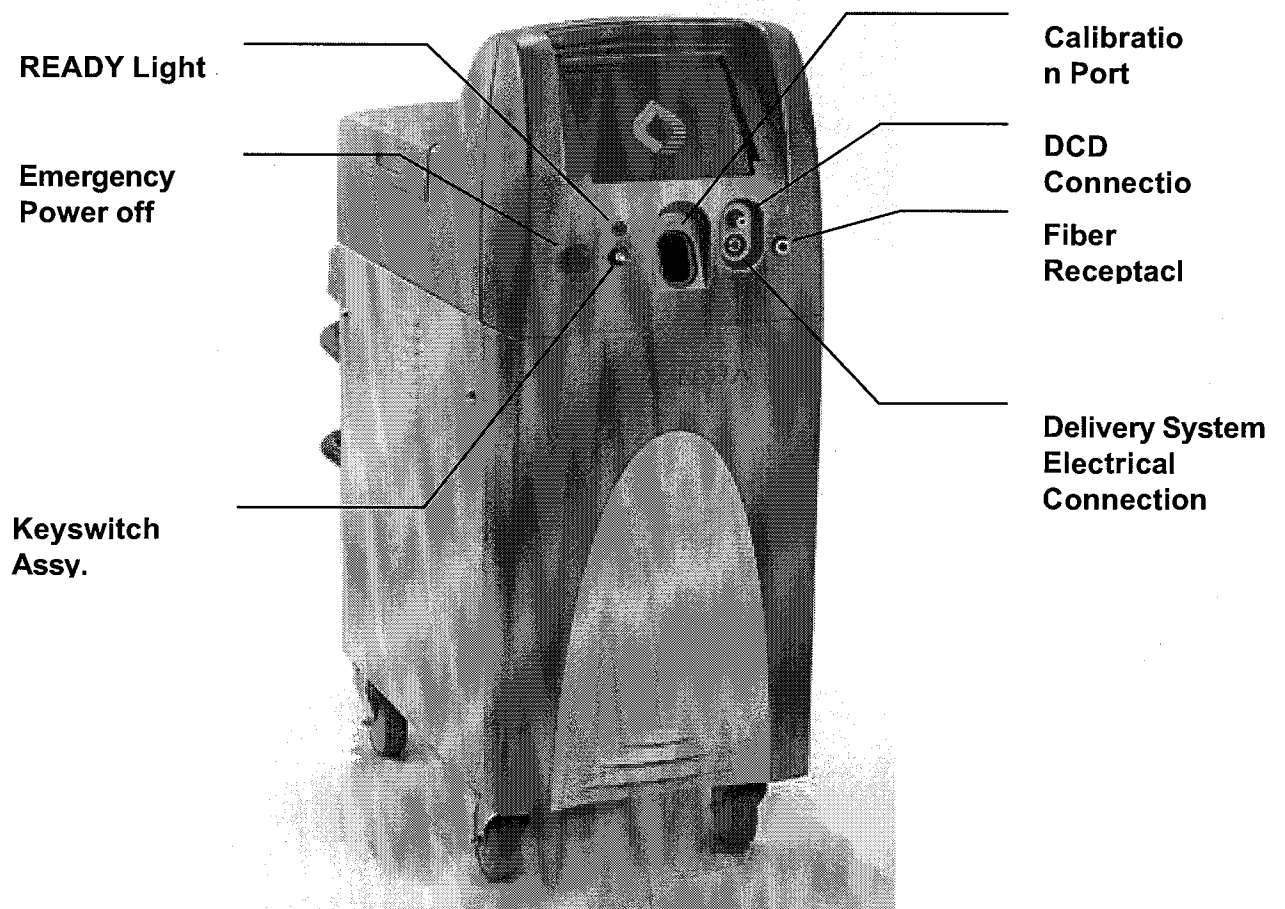

Figure 1: Display Bezel and Delivery System Locations
- 6.1. Refer to figure 1 for handpiece assembly system connection locations.
- 6.4. Connect the handpiece control (round, electrical plug) connector to the handpiece valve control receptacle on the front of the laser system, see figure 1. Connect the cryogen output connector to the cryogen line receptacle on the front of the laser system, see figure 1, as follows: Using both hands, push the knurled connector on the front of the laser system away from you while gently pushing the mating connector into the knurled connector until it stops. Release the knurled connector.
- 8.1. Refer to figure 1 for fiber assembly system connection locations.